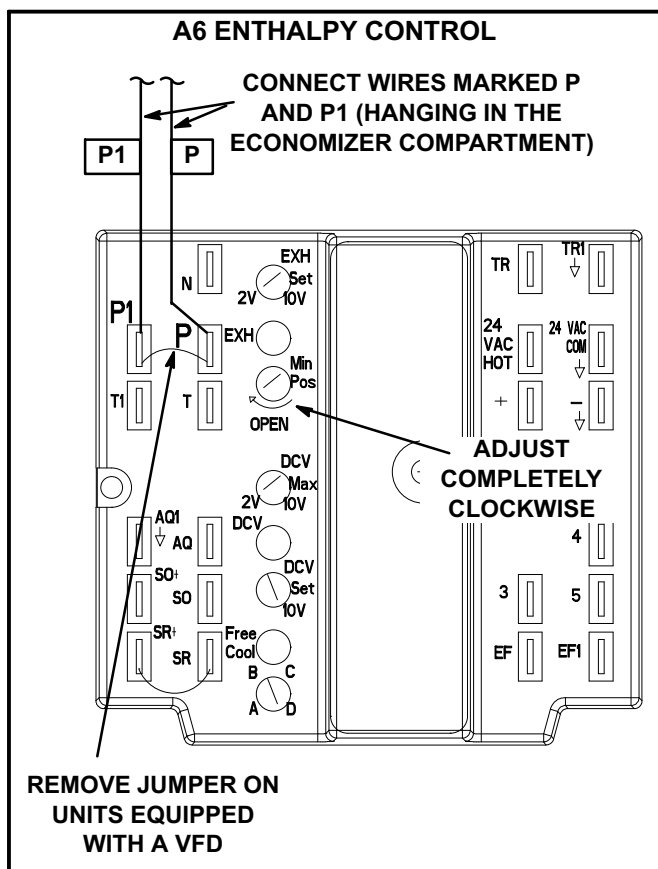

FIGURE 5
- 6- Remove the jumper between P and P1 terminals on A6 enthalpy control. See figure 5.